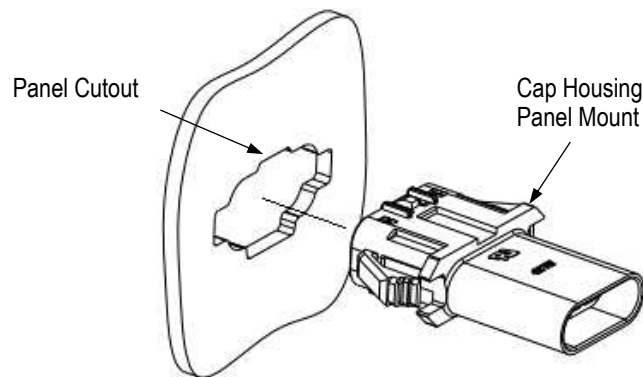

Figure 8
2. Push the cap housing through the panel in the same direction the panel cutout was made, until it snaps into place. Refer to Figure 8.